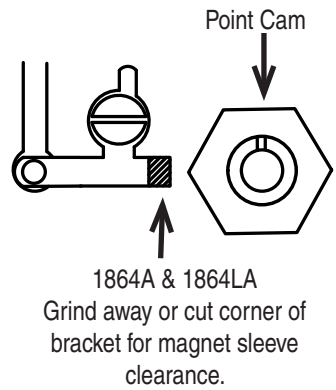

Figure 1
4. The Ignitor does not require any modification to the distributor. Therefore the point, condenser and hardware can be used as backup. **Note:** 1864A & 1864LA require a minor modification. See Figure 1.
- **Part numbers: 1845, 1848, 1849, 1864A, 1864LA, 2843, 92846:** **Note:** *Part numbers 1864A & 1864LA modification required. (See Figure 1).*